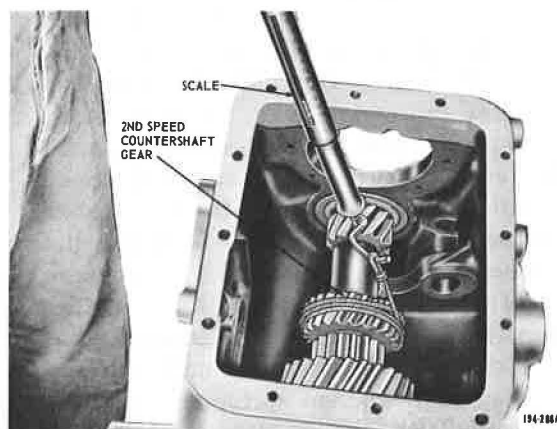

Figure 5-9. Checking Countershaft Bearing Preload
6. Preload countershaft bearings as follows: Lubricate all bearings with SAE 30 oil. Wrap a string around countershaft second-speed gear (largest integral gear) several times. Attach a spring scale to looped free end of string and with a steady pull, rotate the assembly SLOWLY. See Figure 5-9. Repeat this operation and adjust thickness of rear bearing shim pack until recommended rolling-drag is read on the scale.